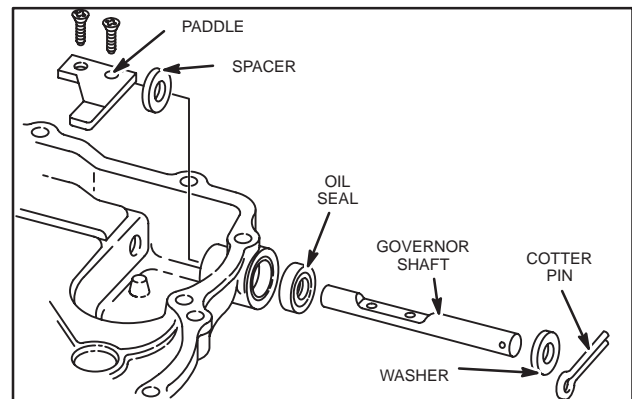

Fig. 14 – Installing Governor Shaft
2. Assemble governor shaft, Fig. 14.